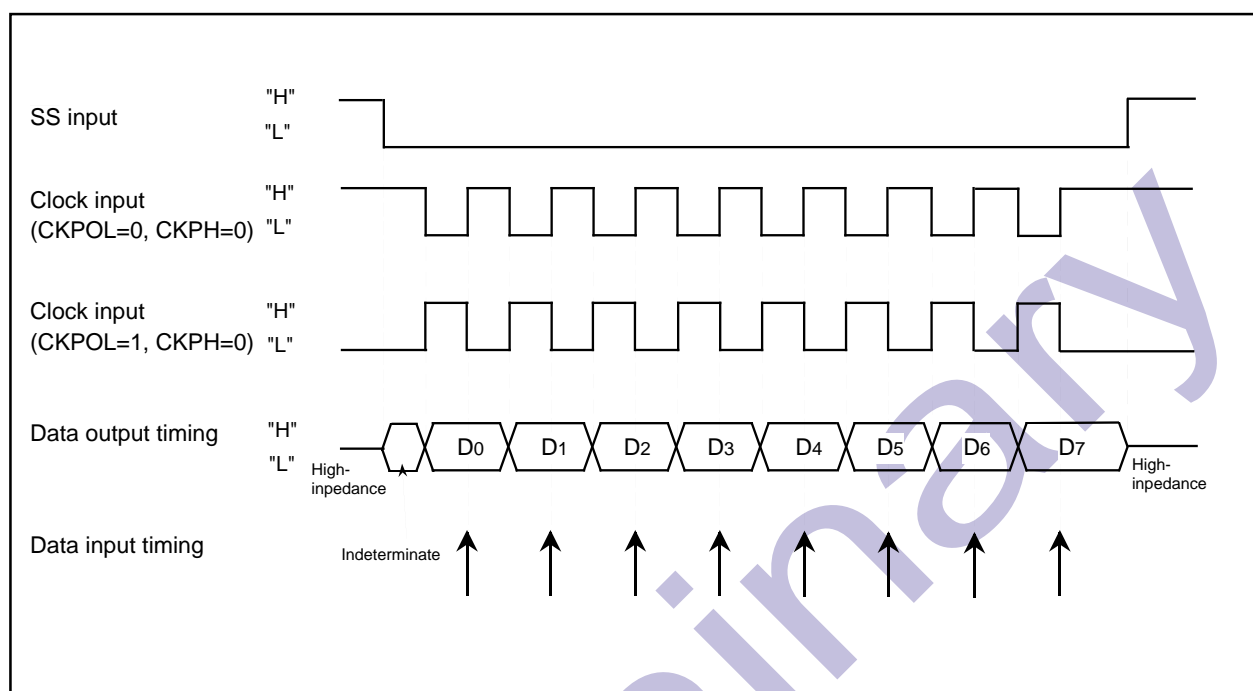

Figure 1.20.8. The transmission and reception timing (CKPH=0) in slave mode (external clock)
- With "0" for bit 1 (CKPH) of UARTi special mode register 3 (addresses 032516 and 02F516 [*i* = 3 or 4]), when an SSi input pin is H level, output data is high impedance. When an SSi input pin is L level, the serial transmission start condition is satisfied, though output is indeterminate. After that, serial transmission is synchronized with the clock. Figure 1.20.8 shows the timing.